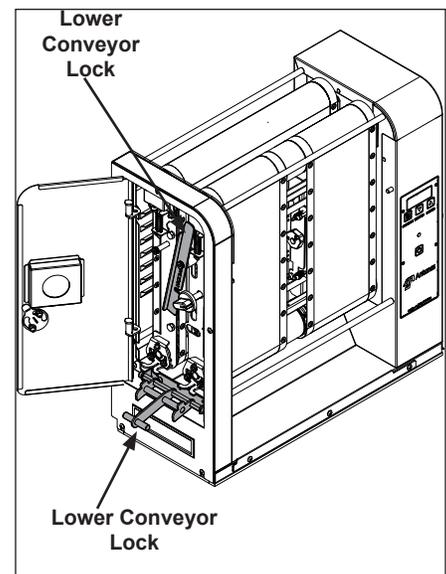

Figure 11. Conveyor Locks
6. Lift the upper belt frame lock. Then rotate down so it rests on the compression shaft (Figure 11).
7. Pull down the lower belt frame lock. This provides access to the front and rear belt rollers and belts (Figure 11).
5. Lift the lower conveyor lock to lock the rollers into place (Figure 11).
6. Lift the upper belt frame lock and lock in place on the conveyor assembly (Figure 11)